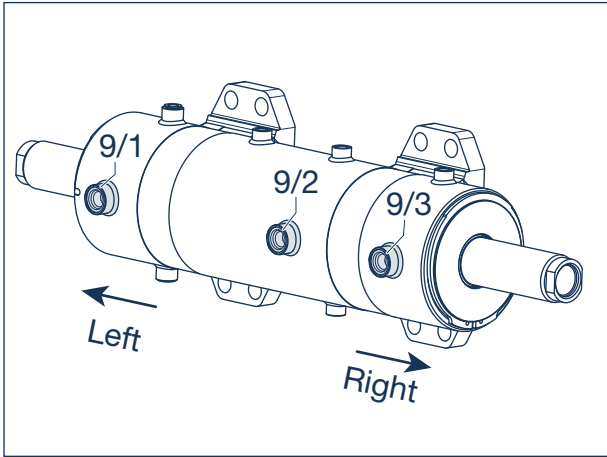

Figure 2
- [2] Remove the remaining oil out of the cylinder into an oil catcher bucket, to do this remove the bleed screw (11) from the venting bores (10, M8 x 1) and remove the connection elements, out of the hose couplings (9/1, 9/2, 9/3).
- [3] After washing and oil removing fasten the cylinder in assembly position shown in the picture. (Fig.2) The hose couplings (9/2, 9/3) always be on right hand.
The hose couplings are asymmetrically placed on the cylinder, so they can help with proper positioning of the cylinder on the workbench. See Figure 2.